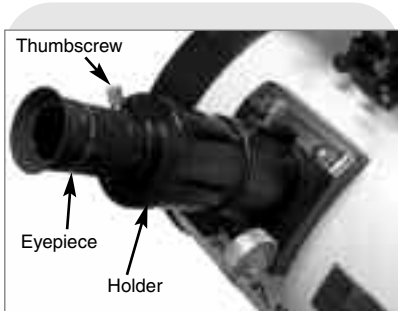

Fig. 10a: Insert eyepiece into holder and tighten thumbscrews.
10. **Insert the eyepiece: Schmidt-Newtonian and Newtonian models (Fig. 10a):** Lift to remove the dust cap from the eyepiece holder on the focuser assembly. Set the dust cap aside in a safe place and replace it when you have finished observing to protect the eyepiece assembly. Back off the eyepiece thumbscrews (1, Fig. 1a) and insert the supplied SP 26mm eyepiece (3, Fig. 1a) into the the eyepiece holder. Tighten the holder thumbscrews to a firm feel to secure the eyepiece.